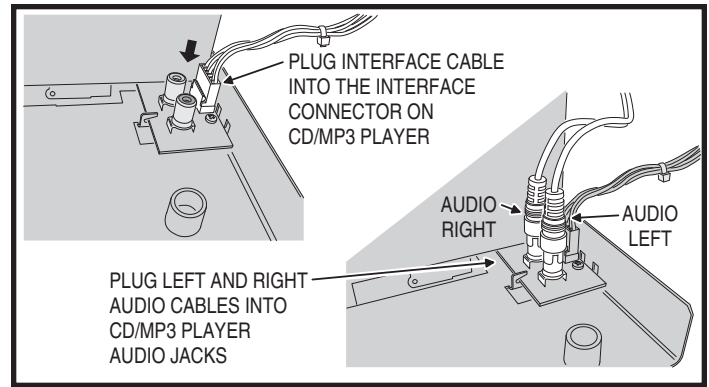

Figure 25. CD/MP3 Player Interface and Audio Cable Connection
9. Insert the CD/MP3 Player interface cable into the INTERFACE connector on the CD/MP3 Player (see Figure 25).
10. Insert the CD audio cable's BLACK RCA plug into the AUDIO LEFT jack on the CD/MP3 Player, then insert the cable's RED RCA plug into the AUDIO RIGHT jack on the CD/MP3 Player (see Figure 25).